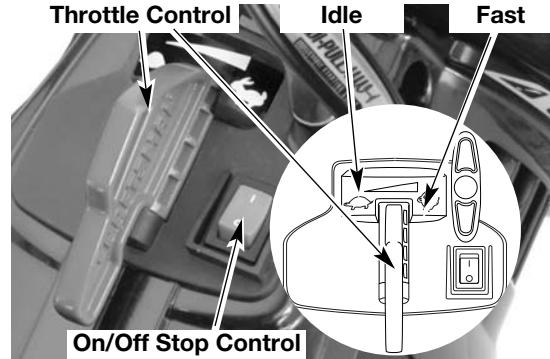
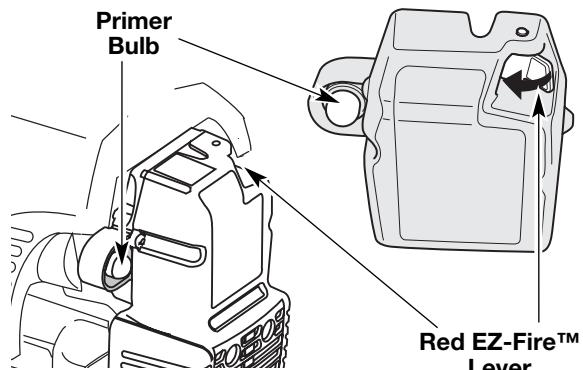
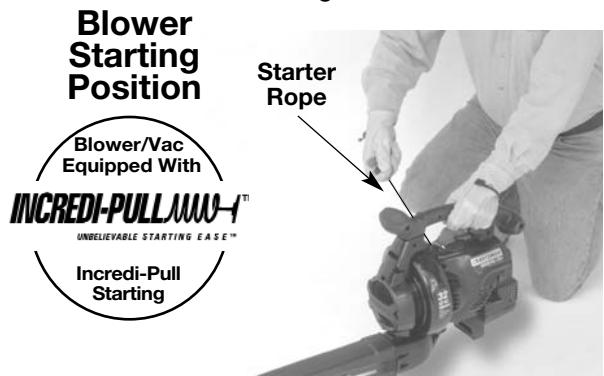
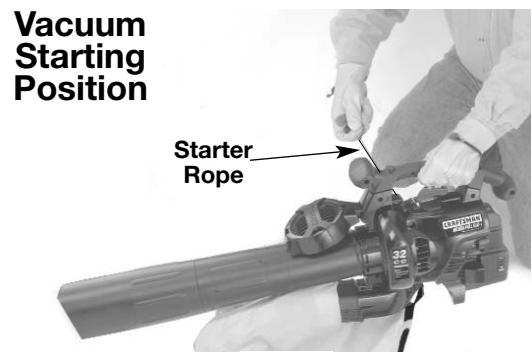

Fig. 9
Fig. 10
Fig. 11
Fig. 12
WARNING: Avoid accidental starting. Make sure you are in the starting position when pulling the starter rope (Fig. 11 and 12). To avoid serious injury, the operator and unit must be in a stable position while starting.
2. The On/Off Stop Control is in the ON (I) position at all times (Fig. 10).
3. Fully press and release the primer bulb 10 times, slowly. Some amount of **fuel should be visible in the primer bulb** and fuel lines (Fig. 10). If you can't see fuel in the bulb, press and release the bulb as many times as it takes before you can see fuel in it.
4. Place the unit in the starting position (Fig. 11) as a blower, Fig. 12 as a vacuum). **Move the throttle control to the idle position** (Fig. 9). This is especially important during cold starting.
5. **Push the red EZ-Fire™ Lever towards the primer bulb** until it clicks and locks into place (Fig. 10).
7. When the engine starts, move the throttle control to the fast position (Fig. 9) and let the engine warm up for 15 to 30 seconds. **The red EZ-Fire™ Lever will click off automatically** when you move the throttle control to the fast position.
1. Move the throttle control to the idle position (Fig. 9). Allow the engine to cool down by idling (Fig. 10).
2. Put the On/Off Stop Control in the OFF (O) position (Fig. 10).